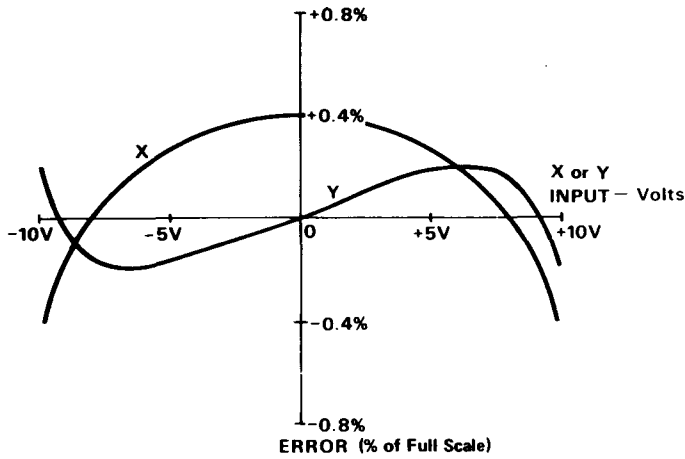

Figure 6. Typical X and Y Nonlinearity for $kI_z = 10V$
2. See also Figure 6.
Typical curves for V_x and V_y nonlinearity are shown in Figure 6. However, the actual wave shapes for each can vary significantly from that shown. The V_x/kI_z nonlinearity is shown in Steps 5 and 6 of the trim procedure section.